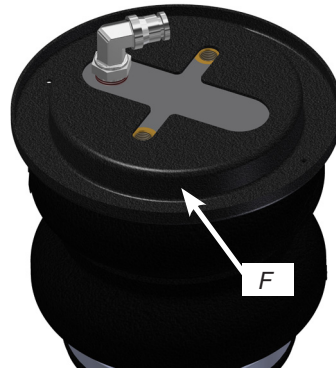
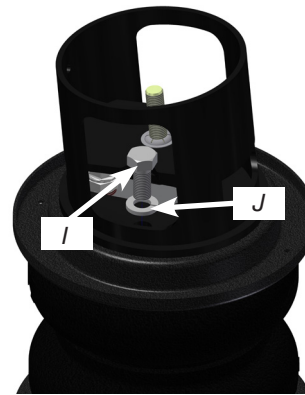

fig. 10
fig. 11
3. Place the roll plate (F) over the air spring (Fig. 10). Attach the upper mount to the air spring (Fig. 11) using two short bolts (I) and two lock washers (J). Torque to 27Nm (20 lb.-ft.)